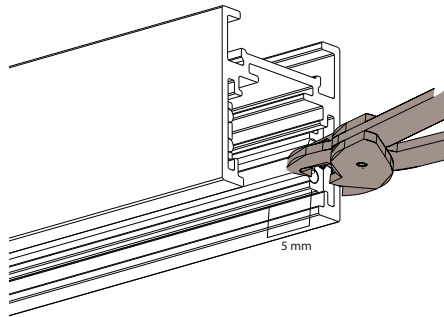

Figure 2
2. Rectify and shorten the outer ends of the copper conductors inside the profile with pincers (Figure 2).